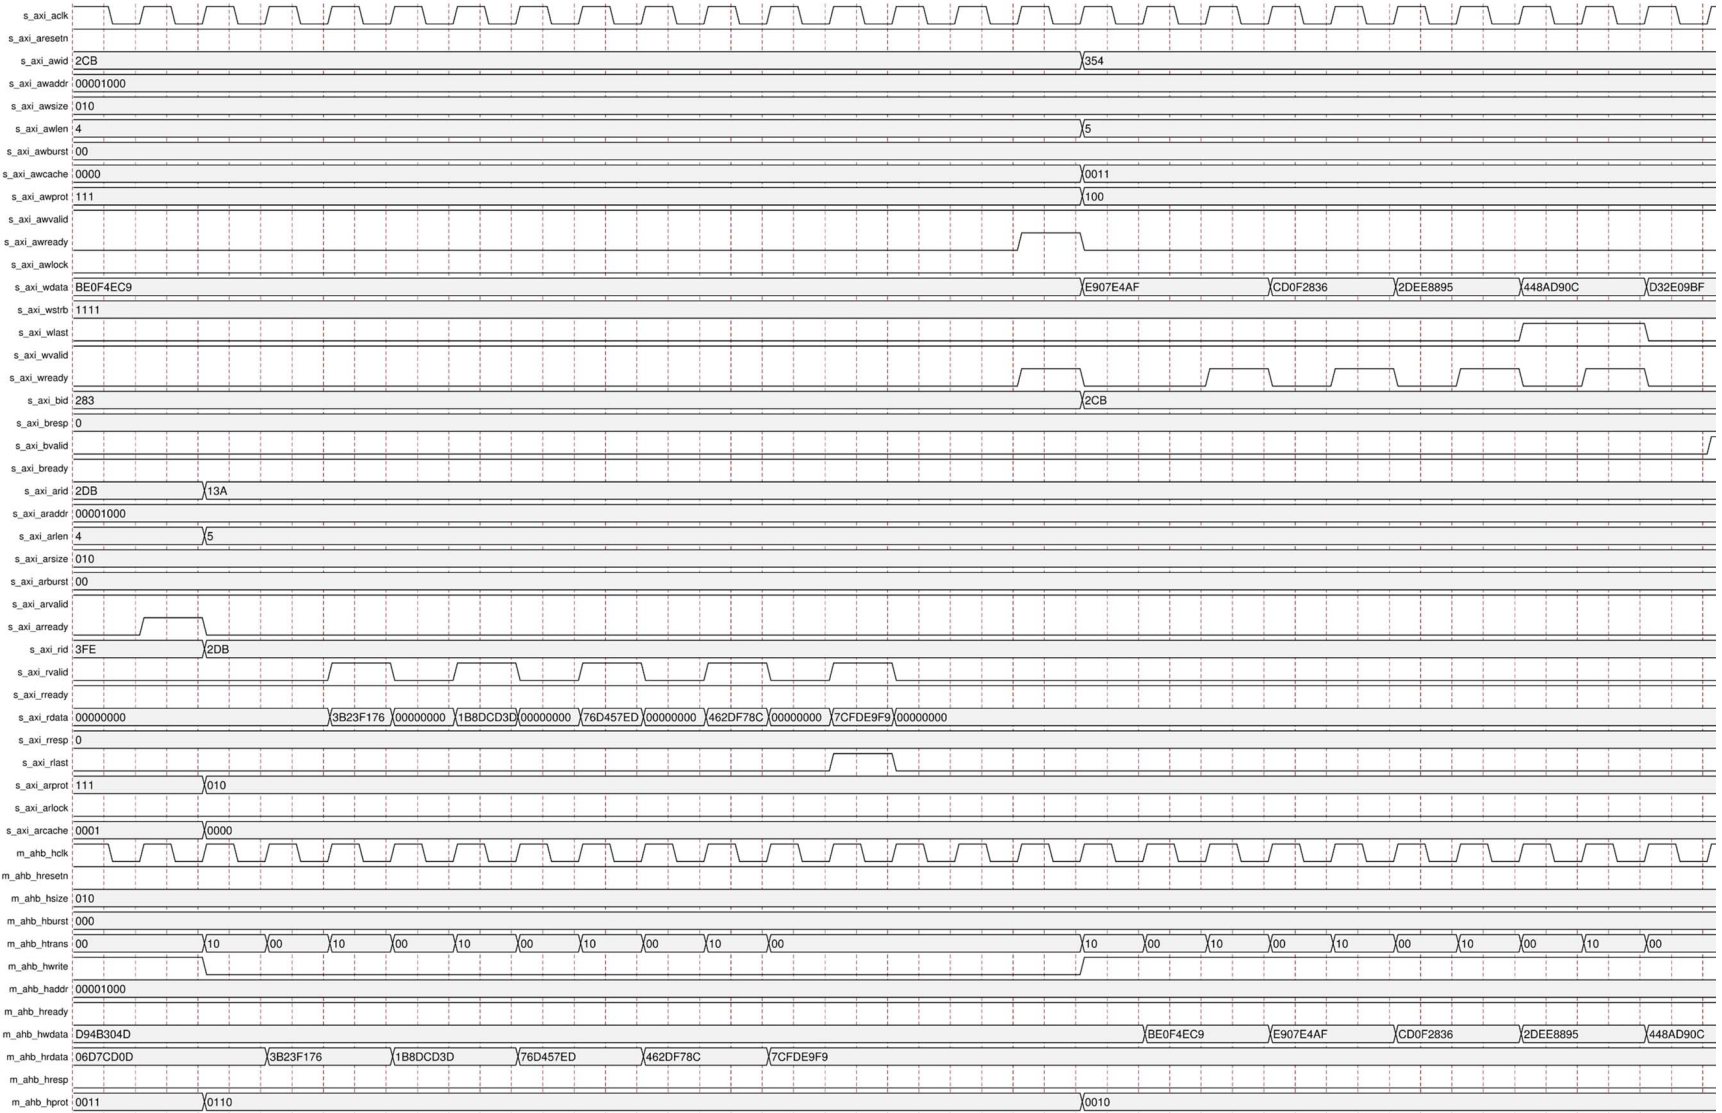

Figure 3-6: AXI4 Fixed Burst Read and Write Transfers
6. AXI4 fixed burst read and write transfers are shown in Figure 3-6. AXI4 fixed burst read and write transfers of length 5 are transferred to five AHB-Lite single read and write transfers.